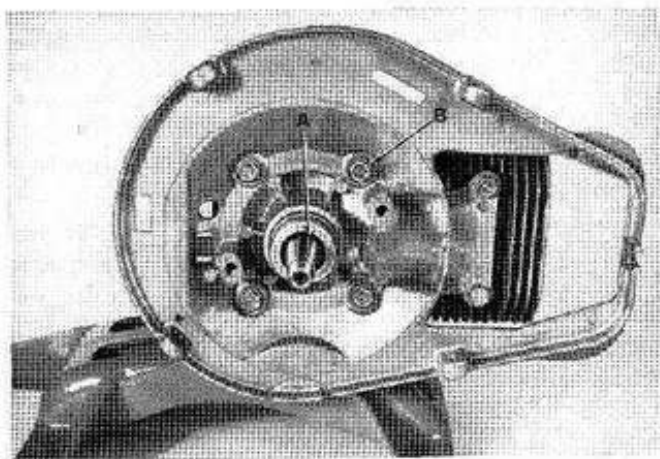

Figure 80. Seal Spreader Installed.
- a. Insert a seal spreader (A) in the backplate seal before removing the backplate from the engine. (See Figure 80.)